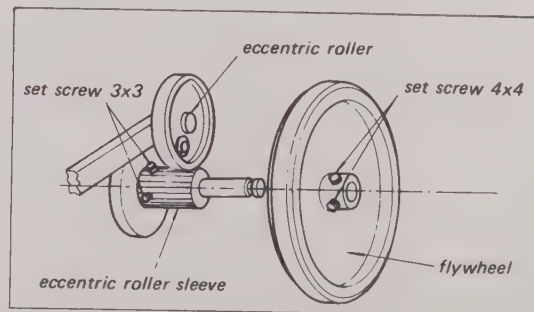

Fig. 5-46. Flywheel/eccentric roller sleeve assembly
5. Loosen the two 3 x 3 set screws to remove the Sleeve that drives the Eccentric Roller. See Fig. 5-46.